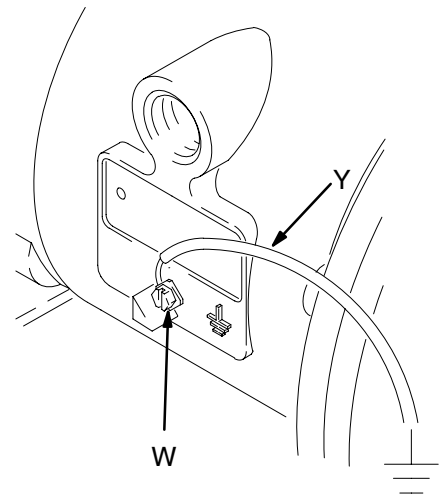

Fig. 1
*Polypropylene and PVDF are **not** conductive.* Attaching the ground wire to the grounding lug grounds only the air motor. When pumping conductive flammable fluids, **always** ground the entire fluid system by making sure the fluid has an electrical path to a true earth ground. See Fig. 1.
- **Pump:** Connect a ground wire and clamp as shown in Fig. 1. Loosen the grounding screw (W). Insert one end of a 12 ga (1.5 mm²) minimum ground wire (Y) behind the grounding screw and tighten the screw securely. Connect the clamp end of the ground wire to a true earth ground. Order Part No. 237569 Ground Wire and Clamp.